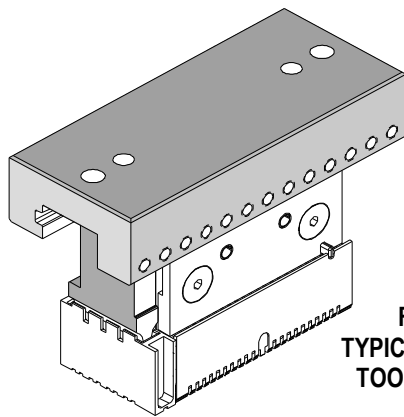

Figure 2-4
- Now tighten the M3 set screws against the modules with one (1) screw against each power module inserter, two (2) screws evenly spaced on a 10 wide header insertion module and at least three (3) screws evenly spaced on a 25 wide header insertion module. Figure 2-4 shows a typical completed assembly.